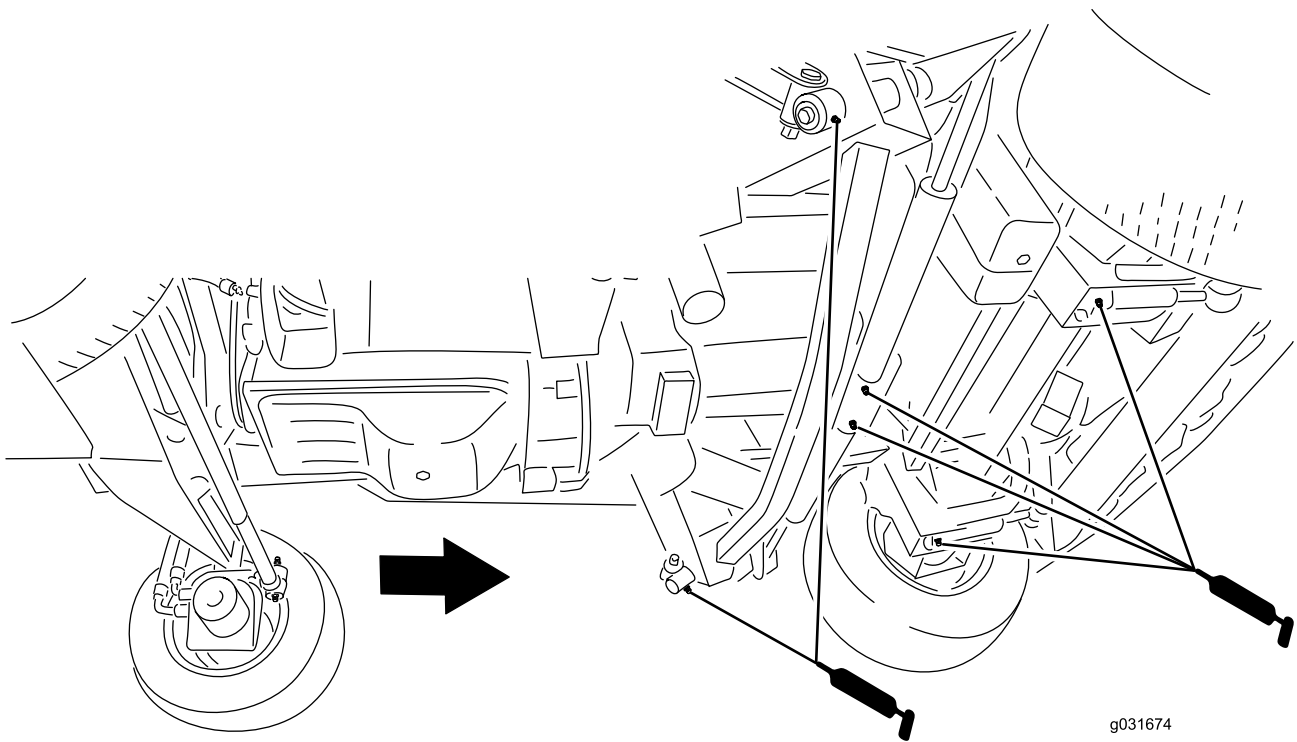

Figure 48
- 2 impact arms (Figure 48)
- 2 front deck-lift-cylinder pivots (Figure 48)
- 2 side deck-lift-cylinder pivots (Figure 48)